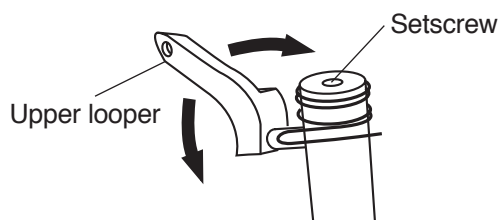

Figure 3
3. Loosen the setscrew and adjust the clearance between the loopers by moving the upper looper to the back or front as shown in Figure 3.